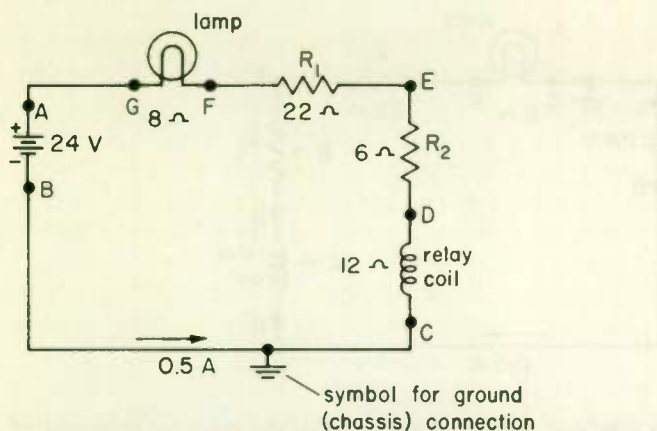
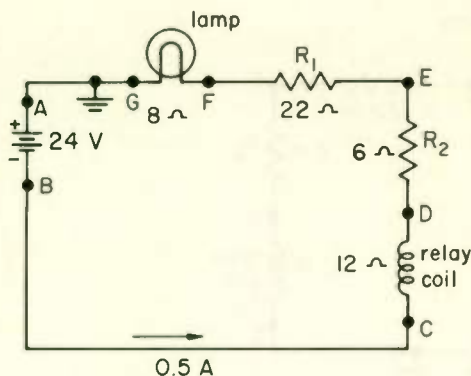

Fig. 19 Voltage measurements often use ground as the reference point.
Fig. 20
Very frequently the metal chassis to which the ground connection is made is used as the reference point to which voltage measurements are made. For example, the voltage with respect to ground at point *F* in Fig. 19 is +20 V. The voltage to ground at point *D* is +6 V.
5. In Fig. 19 the voltage and polarity to ground of the positive terminal of the battery are (a) _____ and the voltage and polarity to ground of the negative battery terminal are (b) _____.
6. In Fig. 20 the voltage and polarity to ground of the positive terminal of the battery are (a) _____ and the voltage and polarity to ground of the negative battery terminal are (b) _____. The voltage across the battery in both Fig. 19 and Fig. 20 is (c) _____ volts.
7. In Fig. 20 the voltage and polarity to ground at point *F* are (a) _____; at point *E* they are (b) _____; at point *D* they are (c) _____; and at point *C* they are (d) _____ volts.
6. (a) 0 V (b) -24 V . . . Your voltmeter is, of course, measuring the voltage across the battery when the leads are connected at point *B* and at ground in Fig. 20. For a forward meter reading, the negative lead of the voltmeter must be connected to point *B*, the negative battery terminal. Hence, point *B* is -24 V with respect to ground. (c) 24